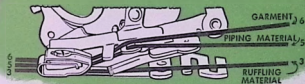

Fig. 68. Correct Positions for Materials
1. Insert material to be ruffled between two blue blades from the right (**Line 3, Fig. 68**). This material must not exceed 1-1/4 inches in width.
2. The piping material is usually cut on the bias and it should be about 1/4 inch wide when folded in center. Place piping material in ruffler, following (**Line 5, Fig. 68**) with folded edge of piping to right.
3. Fold edge of material to which piping and ruffling are to be attached and insert it in ruffler, from the left following (**Line 6, Fig. 68**).